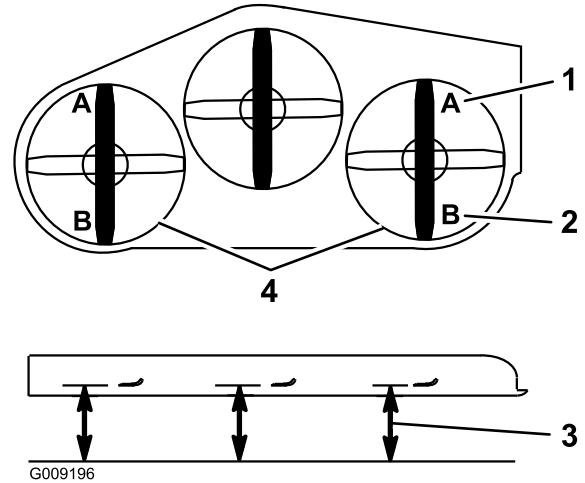

**Figure 71**
5. Push the deck-lift pedal all the way forward and the deck will latch at the 14 cm (5-1/2 inches) transport position (Figure 71).